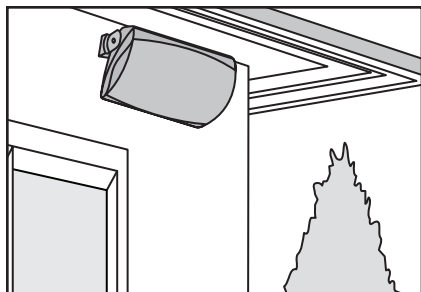

Figure 1. Close up of a speaker under a soffit.
- Mounted to an exterior wall under a roof soffit minimizing exposure to sunlight/rain (as shown in figure 1)